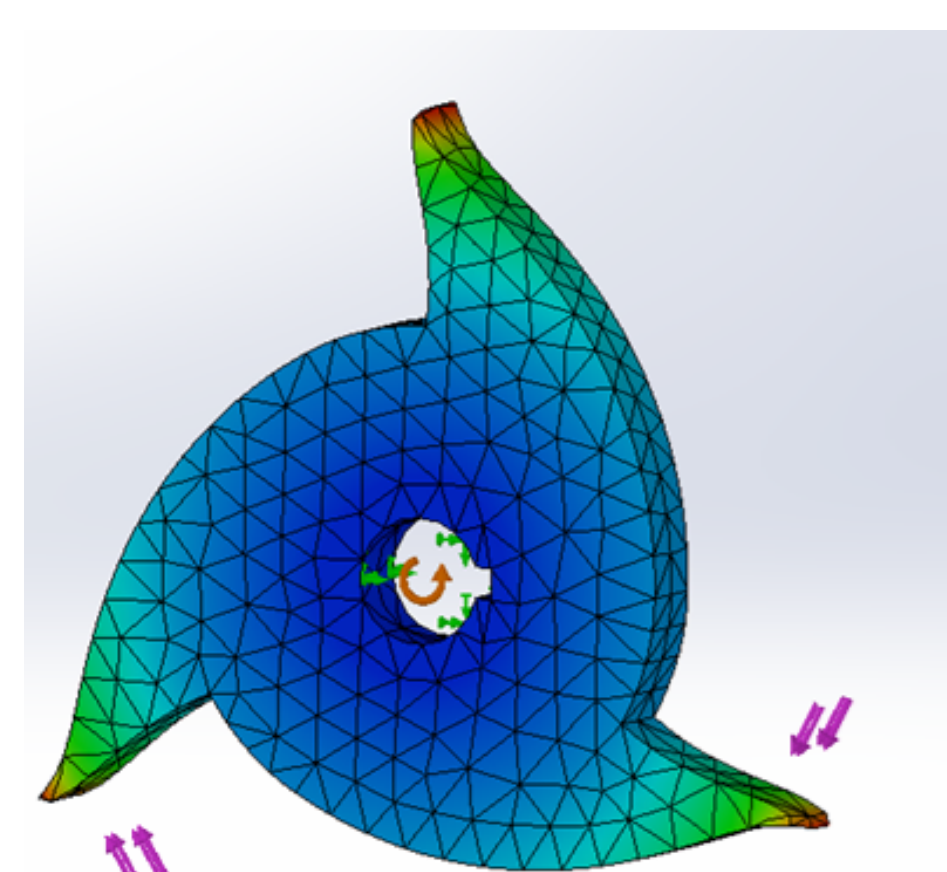

Figure 5: Shredder tooth FEA performed in SolidWorks
- Analysis performed with PLA specifications as "worst case scenario", see Figure 5 and Table 2 for results